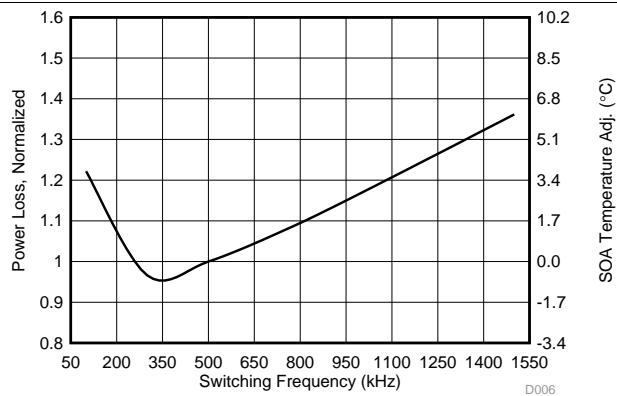

Figure 5. Normalized Power Loss vs Switching Frequency
- Normalized power loss for switching frequency  $\approx 1.08$  (Figure 5)
- SOA adjustment for switching frequency  $\approx 1.32^\circ\text{C}$  (Figure 5)